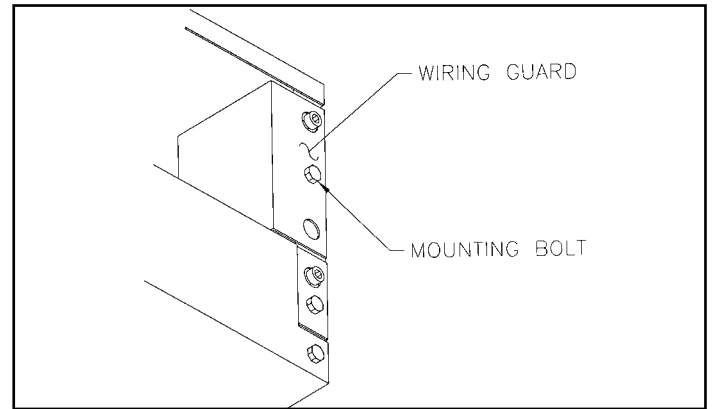

FIGURE 12 - Wiring Guard
- F. A wiring guard, **See Figure 12,** is mounted on the right of the air intake of the unit. The wiring guard is reversible, so it may be mounted on either side of the unit. Remove the ¼" mounting bolt. Clearance holes enable the wiring guard to be removed without disturbing the ¼" shoulder bolts.
- K. Reinstall the wiring guard so that it covers all of the wires used to make the connections to the terminal strip. Reinstall the ¼" mounting bolt. **See Figure 12.**